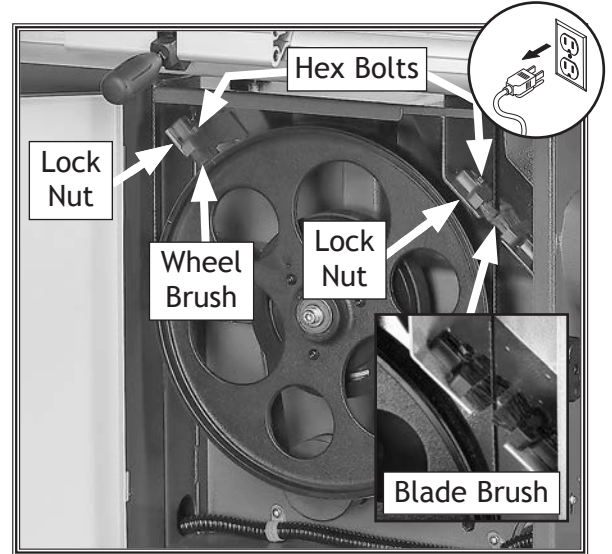

Figure 90. Location of wheel and blade brushes.
The lower wheel has brushes (see **Figure 90**) that are designed to sweep sawdust off the wheel and blade during operation. In order to work properly, the brushes must make firm contact with the wheel.
3. Loosen hex bolts and lock nuts that secure wheel brushes in place (see **Figure 90**).